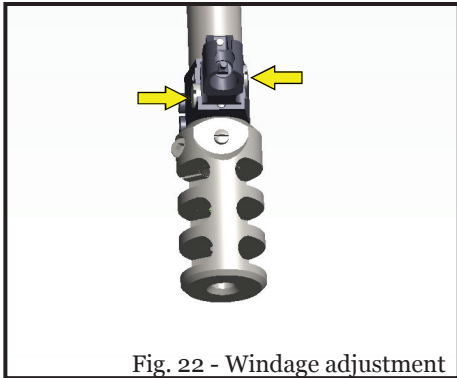

Fig. 22 - Windage adjustment
1. Loosen the adjusting screw on the side where the bead is desired to move (Fig. 22).